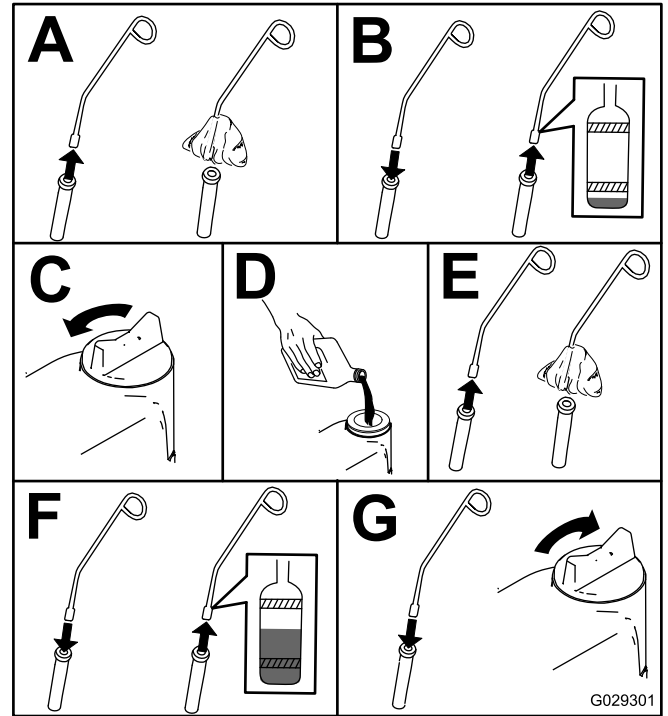

Figure 41
4. Check the engine-oil level as shown in Figure 41.